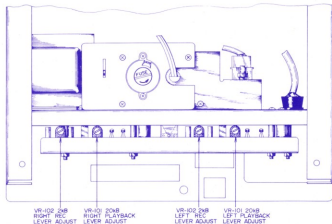

Fig. 7-1
- Adjust the VR 101 (semi-fixed resistor 20 K-B, Fig. 7-1) of the pre-amplifier so that Line Output Voltage indicates 1.228 V (± 4 dbm).